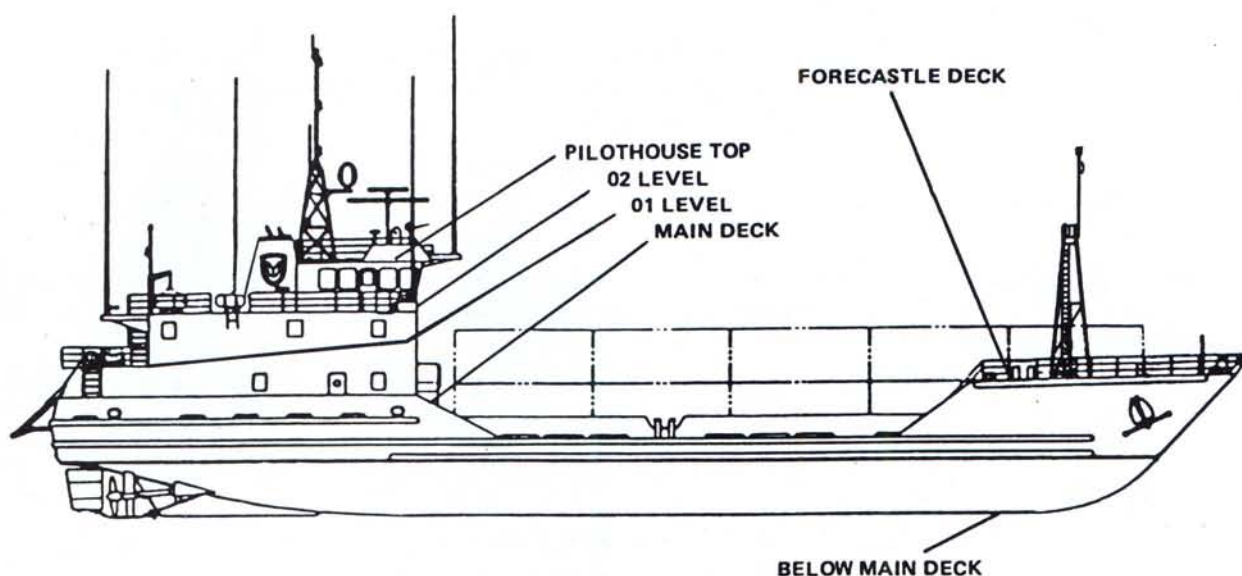

FIGURE 1-2. LCU Decks.
a. LCU Decks. Items shown on FIGURE 1-2 are described as follows:
(1) Pilothouse top. The pilothouse top (weather deck) contains radar antennas, searchlights, foam fire station, fire monitors, gyro repeater, satellite signals navigation set antenna and antenna amplifier, the binnacle compass and supports for cargo lights.
(2) 02 Level. The 02 Level includes, but is not limited to, the pilothouse and poop deck.
(3) 01 Level. The 01 Level includes, but is not limited to, crew accommodations, stern anchor winch, and the aft damage control locker.
(4) Main deck. The main deck includes, but is not limited to, the provisions storeroom, galley, mess room, recreation room, sick bay, arms control room, the air conditioning and emergency generator room, paint locker, boatswains locker, and the forward damage control locker.
(5) Forecastle deck. The forecastle deck (weather deck) is fitted with the anchor windlasses port and starboard bitts, chain stopper, and roller fairlead.
(6) Below main deck. Below the main deck are the steering gear compartment, ballast, fuel, and water tanks, fire station, engine room, tunnel, bowthruster compartment, machine shop, stowage compartments, and engine operating station.
(7) DIMENSIONS